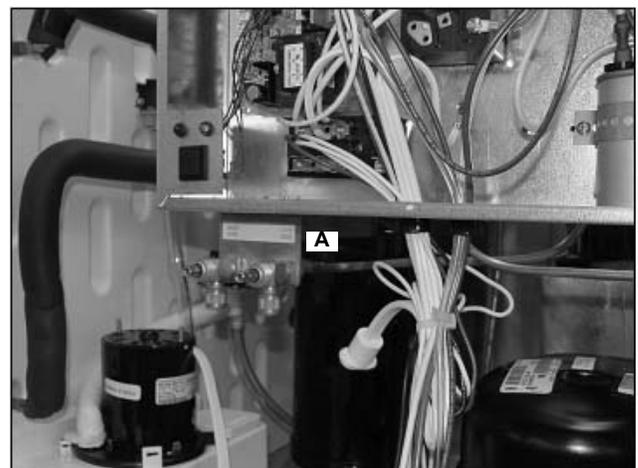

Figure 19.
12. Remove the 2 screws connecting the service valve bracket (A) to the control box (Figure 19).